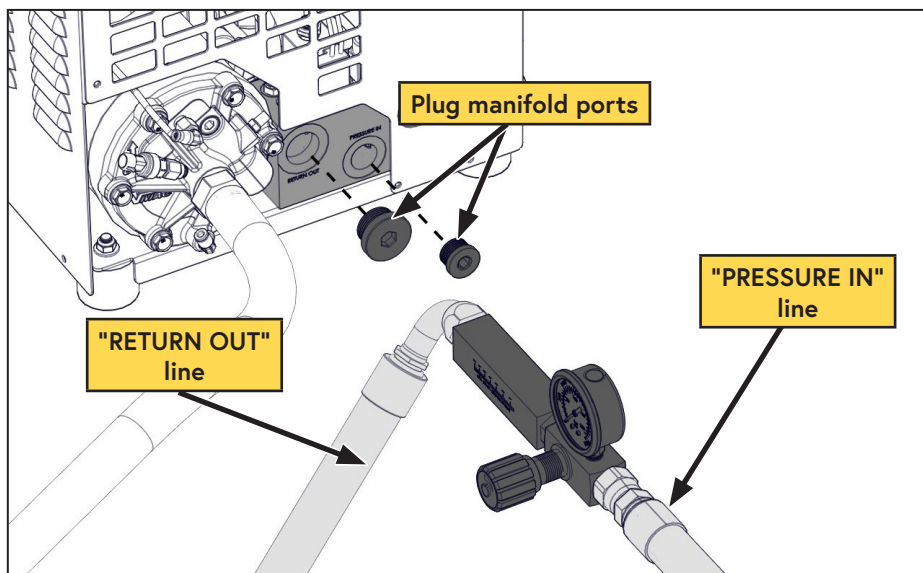

Figure 40 — Install hydraulic test tool
- ☐ Remove the line connected to the "PRESSURE IN" port of the VMAC Hydraulic Driven Air Compressor and connect it to high pressure port of the hydraulic test tool (Figure 40).
- ☐ Remove the line connected to the "RETURN OUT" port of the VMAC Hydraulic Driven Air Compressor and connect it to return port of the hydraulic test tool (Figure 40).
- ☐ Plug ports on the VMAC hydraulic manifold to prevent contaminants from entering the system (Figure 40).